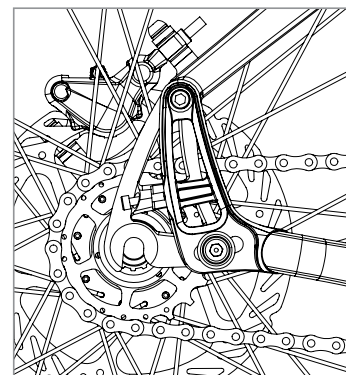

Figure 6
- Turn the driveside tension screw until proper chain tension is achieved and/or adequate tire clearance is reached (fig 6)